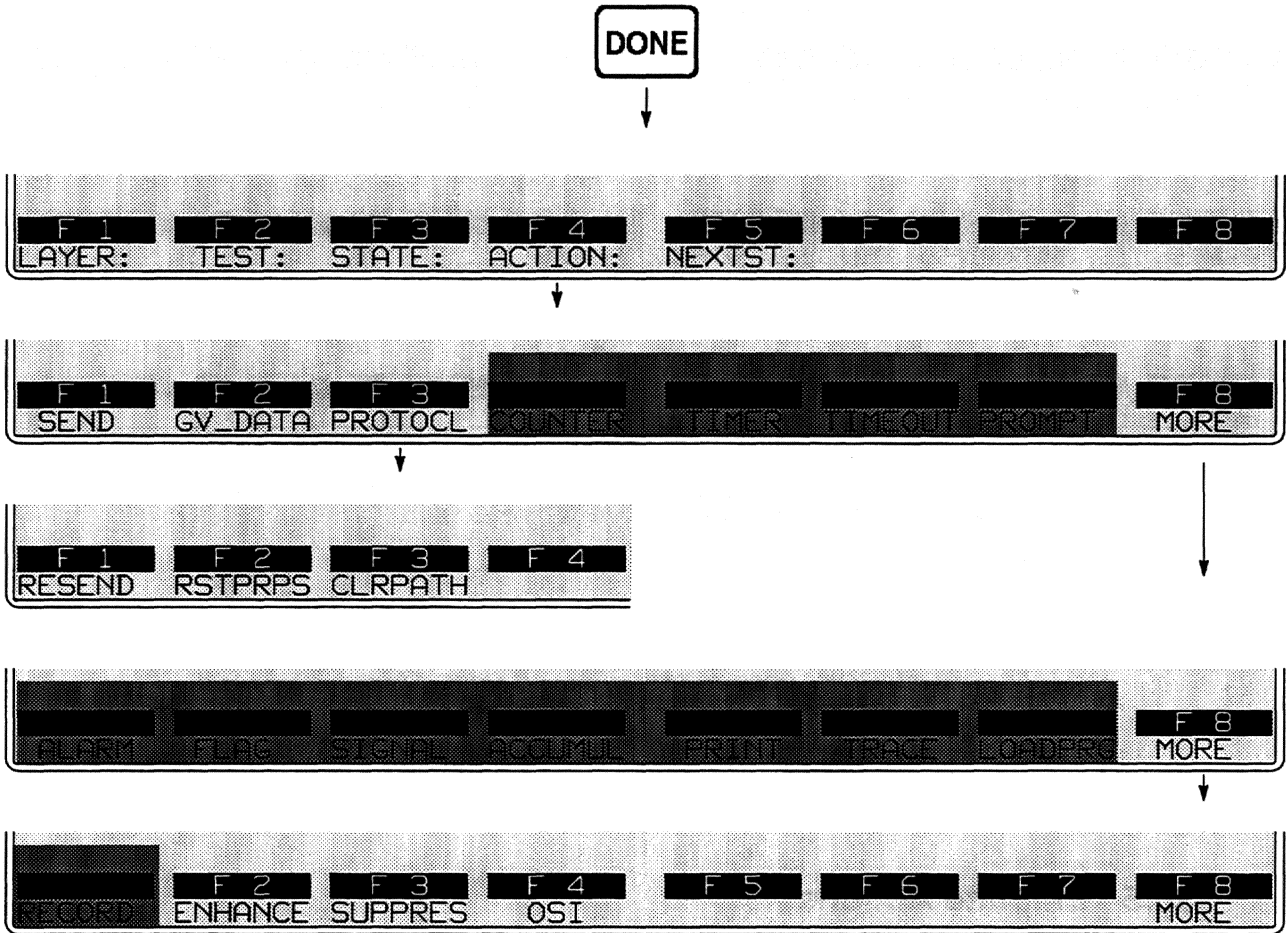

Figure 38-21 Action softkeys specific to X.25 Layer 3.
When you have completed a block of conditions in a Protocol Spreadsheet test at Layer 3, press **Done**, then **F4** (ACTION:), to access the set of actions that can be taken as a result of the block of conditions coming true. The set of actions that are specific to the X.25 Layer 3 personality package are shown in the four lower racks of softkeys in Figure 38-21. Except for ENHANCE and SUPPRES, the actions shown have meaning only when the INTERVIEW is emulating DTE or DCE, and not when it is monitoring the line passively.
GIVE_DATA is the **F2** action on the first rack of action softkeys (refer to Figure 38-21). This action takes the data field from a received data packet and passes it up to Layer 4 along with an N_DATA IND primitive. (See Section 34, OSI Primitives on the Protocol Spreadsheet.) In an emulate mode, data normally arrives up at Layer 4 via GIVE_DATA actions at Layer 3.
RSTPRPS is the **F2** action on the rack of action softkeys below PROTOCL. (Refer again to Figure 38-21.) The sequence—number fields in data packets and supervisory packets can be reset by this Protocol Spreadsheet action. Sequence numbers are not reset *automatically* during a test by any packet that is sent or received.
Each call that is established in emulated mode is assigned to one of nine independent “paths,” each with its own P(R) and P(S) numbering. Thus, nine LCNs may be active at once. The CLRPATH action (Figure 38-21) allows you to return a path to the pool to be used again.